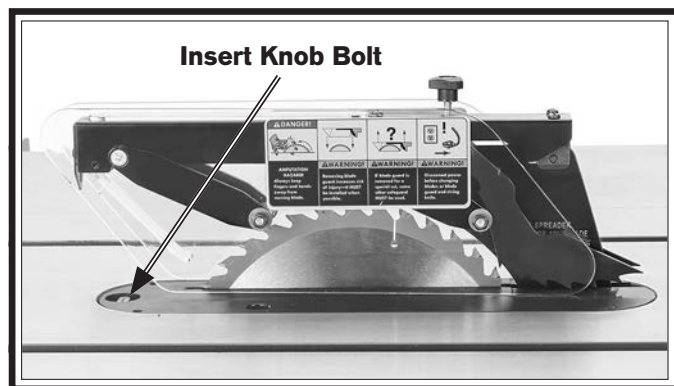

Figure 55. Blade guard/spreader assembly installed.
6. Lift blade guard and anti-kickback pawls just enough to slide table insert into table slot over blade, then secure insert with knob bolt in front of insert (see **Figure 55**).
IMPORTANT: The blade guard, when properly installed, should look like the example in **Figure 55** and should pivot freely so it touches the table surface in the down position. It should also swing up high enough to accommodate the workpiece.